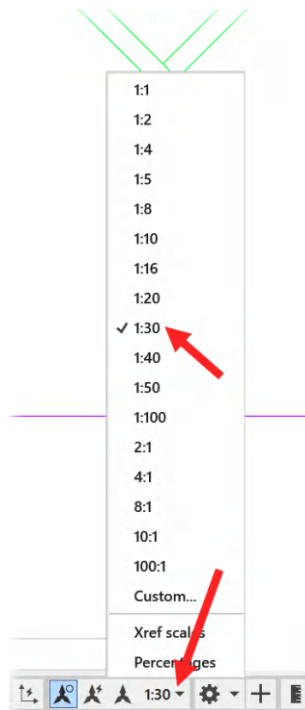

Figure 8.19: The annotation scale set to 1:30 in the status bar
3. The **Labels\_MODEL\_5mm** text style is annotative (it has the blue annotative symbol next to it in the flyout menu), so it will adopt the current annotation scale set up on the status bar when in the **Model** tab. For the annotation text to be displayed as it should in the **1:30** viewport created in the previous section, the annotation scale must also be set to **1:30**. Select the annotation scale flyout in the status bar and select the **1:30** scale, as shown in *Figure 8.19*: